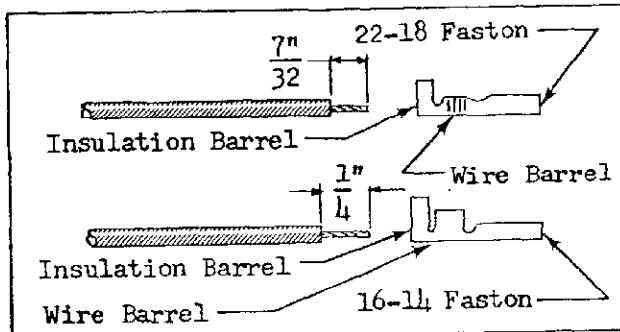

FIG. 2
- (a) For 22-18 Terminals, strip wire  $\frac{7}{32}$  inch. See Figure 2.
- (b) For 16-14 Terminals, strip wire  $\frac{1}{4}$  inch. See Figure 2.